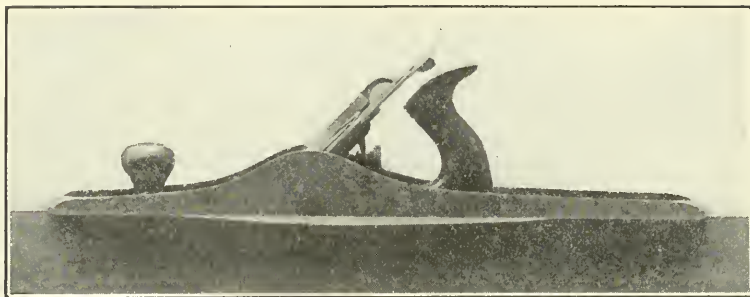

Fig. 133
The smoothing-plane is therefore merely to *smooth* the surface after it has been straightened by a longer plane (Fig. 133), or where the surface must be smooth but need not be true. Small pieces can be straightened and trued by the smoothing-plane alone. See also *Block-plane*, below and *Planing*, page 43.
34. Planing Edges and Narrow Surfaces.— What you have to do is to make the edge straight from end to end and also square with the side of the piece. A long plane does this better than a short one (Fig. 133). Use the jack-plane, fore-plane, jointer, or long jointer,